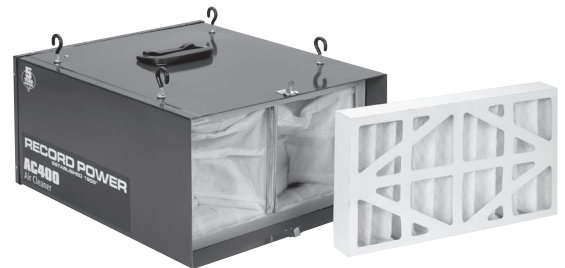

Fig 9.2
- Once the outer filter is removed the inner filter can now be pulled out of the unit (**Fig 9.2**). The inner filter can be blown out with air or washed out. The filter should be completely dry before reinstalling into the machine.